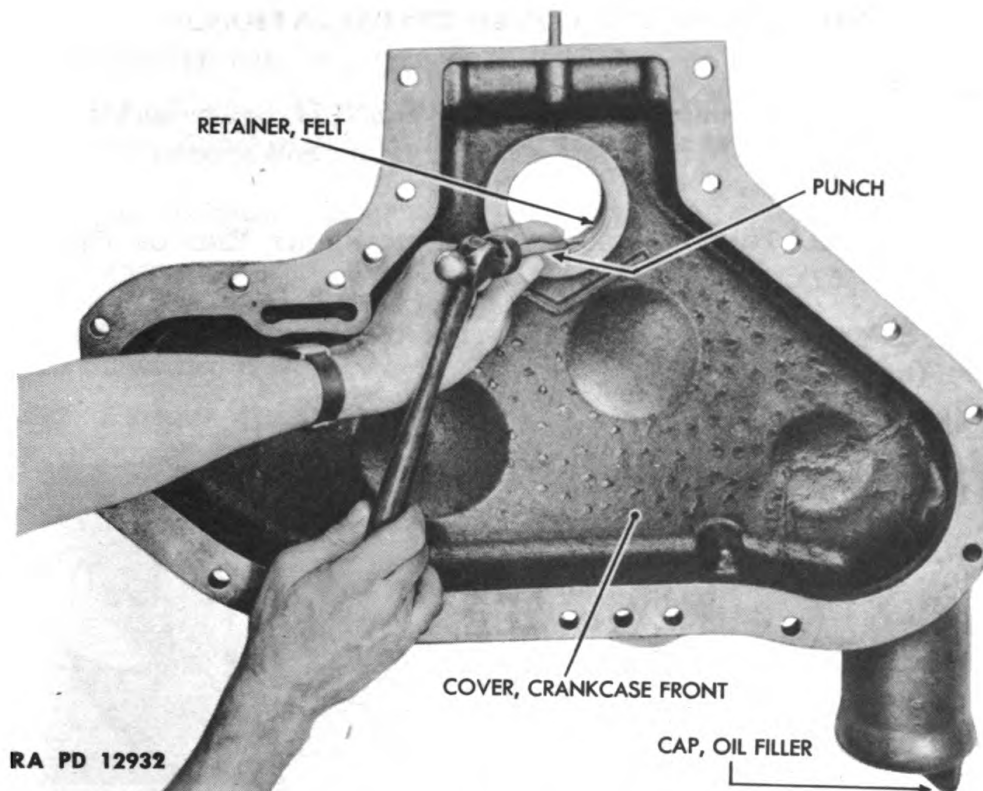

Figure 128—Removing Felt Retainer from Crankcase Front Cover
(3) REMOVE FELT RETAINER (fig. 128).
(4) REMOVE OIL FILLER CAP (fig. 128).